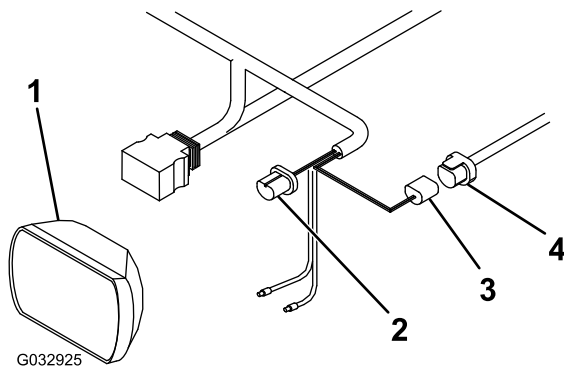

Figure 15
1. Disconnect the wire harness plug from the back of the left vehicle headlight (Figure 15).
2. Connect the blue plug from the long wire harness to the back of the left vehicle headlight (Figure 15).
3. Connect the black plug from the long wire harness to the previously disconnected plug on the vehicle wire harness (Figure 15).